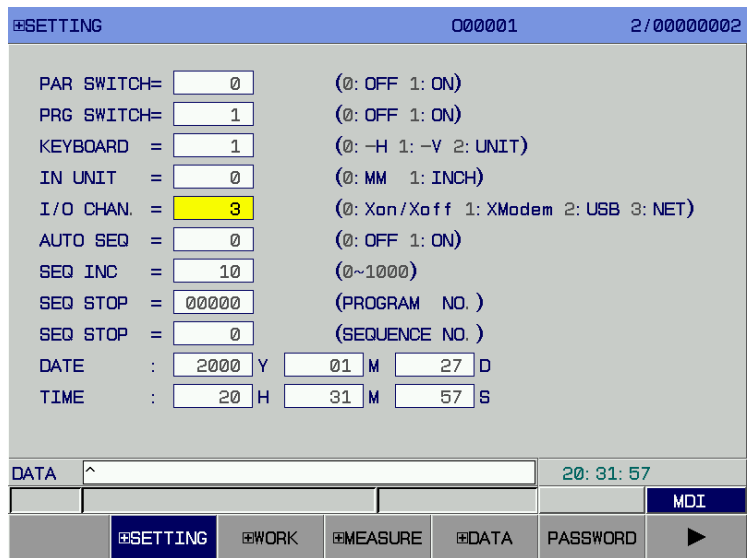

Fig. 11-3-2-1
2) Press  to enter the Set page, and set the I/O channel to 3, as shown in Figure 11-3-2-1.